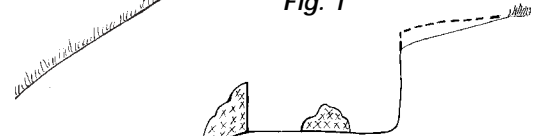

Fig. 2
2. Cut a swath about six feet wide to a depth of four to six inches on the uphill side, allowing the soil to fall into the trench. (See Fig. 2)